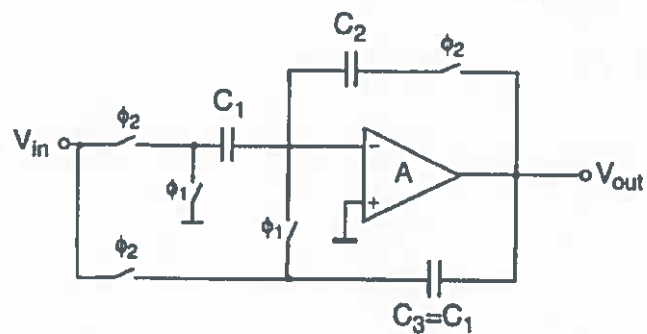

Figure 4.2
b) Figure 4.2 shows an auto-zeroing switched capacitor integrator capable of removing any offset in the amplifier. Derive the output voltage of the integrator during phase Φ_1 and Φ_2 indicating how the offset is removed by showing the charge on each capacitor during each phase.